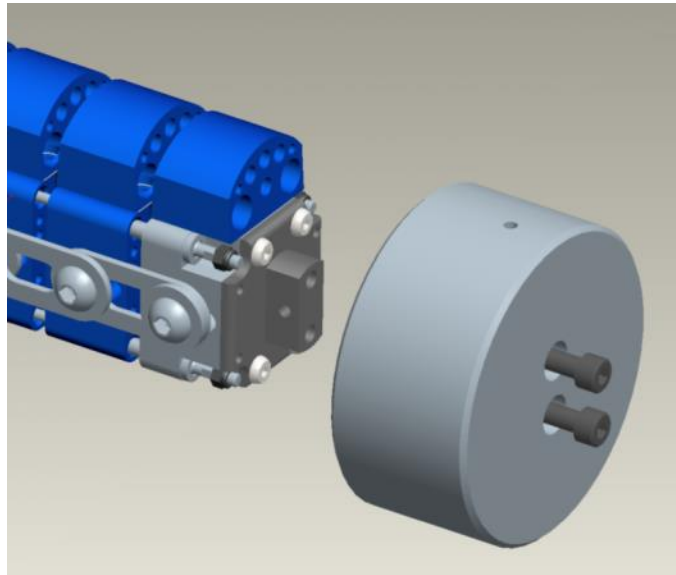

Figure 94 Attaching Pendulum Ballast Weight
Step 8: Attach the ballast weight (Part Nr 133-8436) as shown in Figure 94 to the top of the femur using two M8 x 50 long cap head screws;